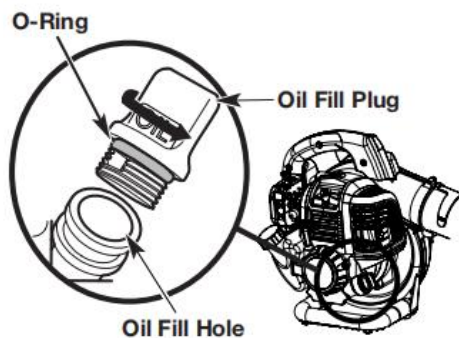

Fig. 9
- 3) Clean the area around the oil fill plug (Fig. 9) to prevent debris from entering the oil fill hole.
**Note:** Make sure the O-ring is in place on the oil fill plug (Fig. 9).
- 1) Clean the area around the oil fill plug (Fig. 9) to prevent debris from entering the oil fill hole.